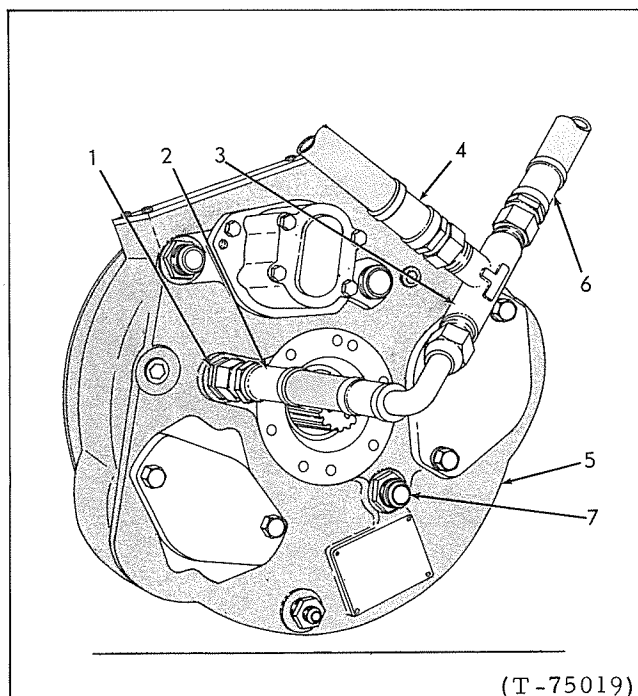

FIG. 10 TORQUE CONVERTER PRESSURE-CHECK POINT
- b. Disconnect oil supply line, Fig. 10(6) from torque converter; install necessary fittings and oil lines, Fig. 10, to check pressure.